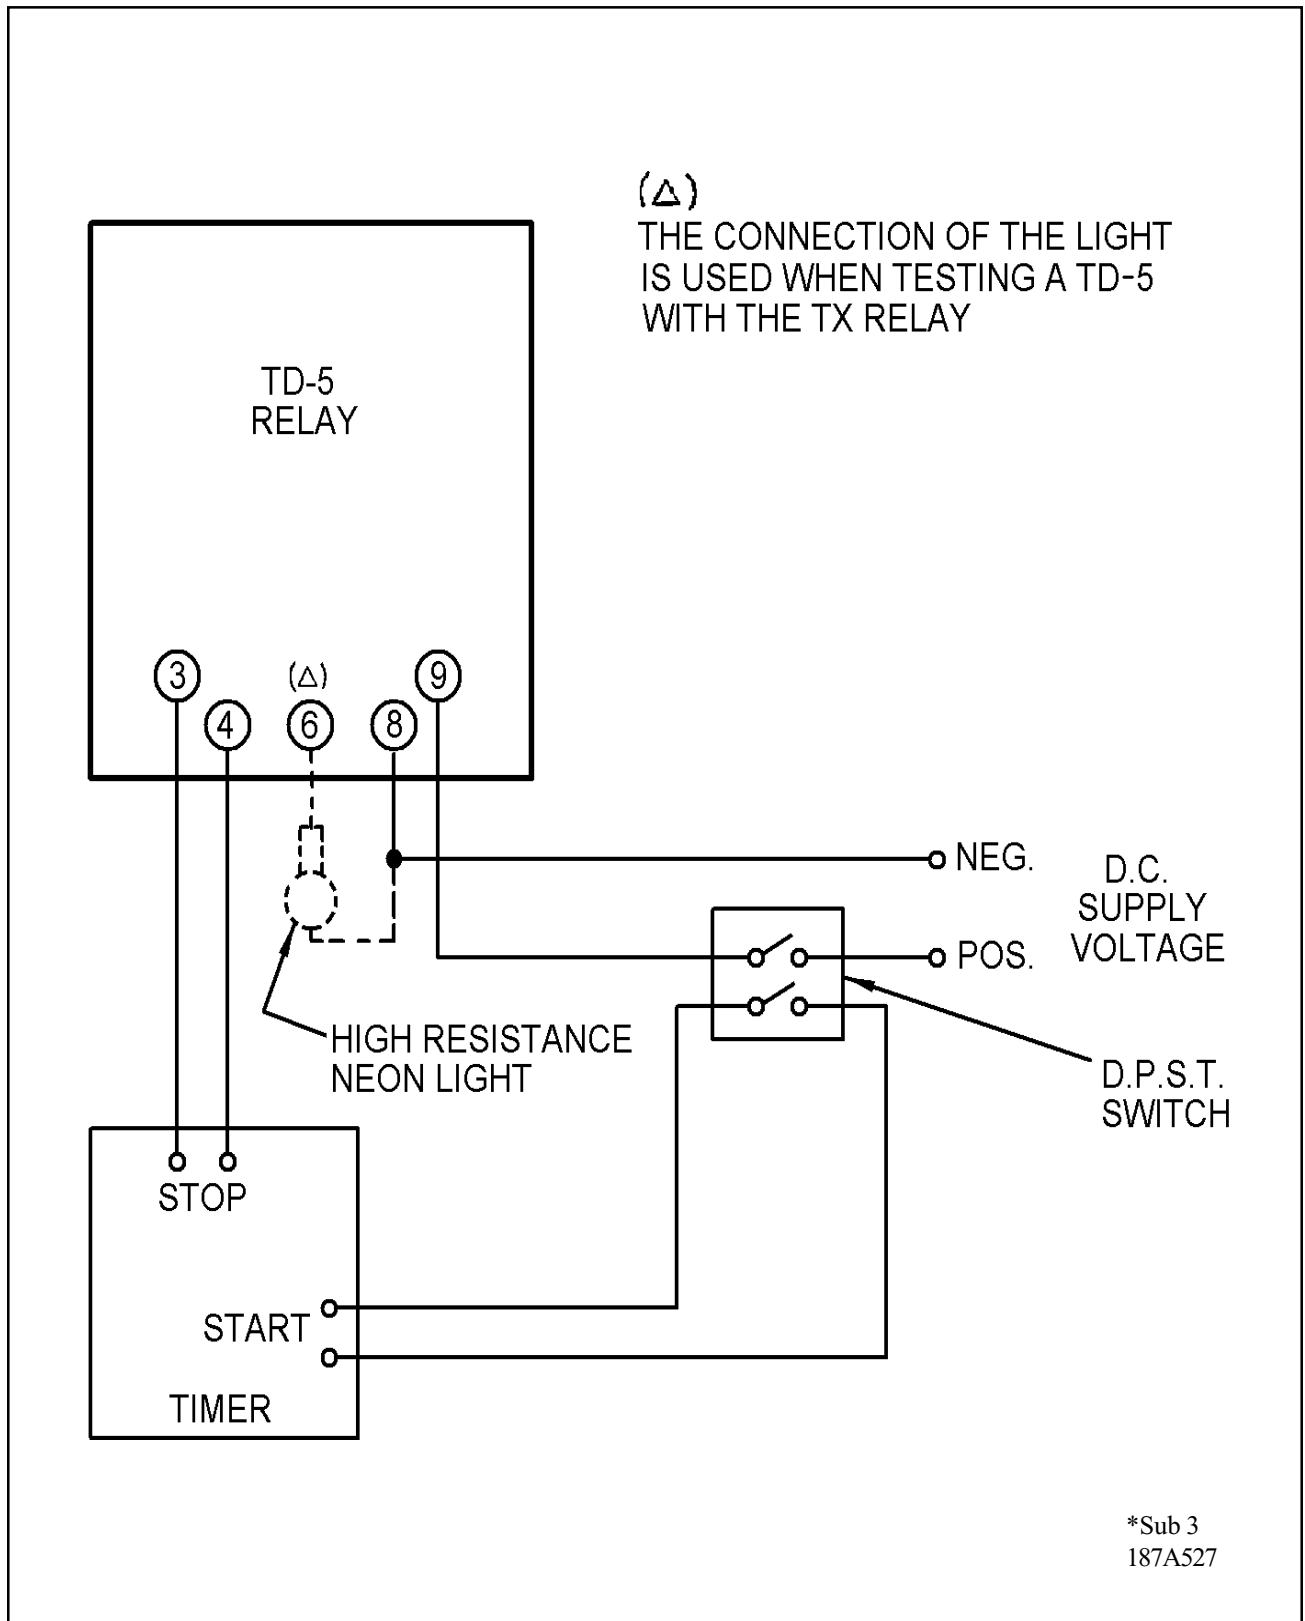

Figure 6. Test Circuits for Type TD-5 Relay
The following check is recommended to insure that the relay is in proper working order. Perform a timing check at minimum and maximum settings. A recommended test circuit is shown in Figure 6. When testing the TD-5 with a TX relay make the dotted connection as shown in Figure 6. The neon lamp will light if the TX relay is operating properly.
2. Check the reference voltage circuit. This is done by measuring the dc voltage across the silicon power regulator, Z or Z1. Connect the dc volt meter positive terminal to the rear terminal (Design 1) or bottom terminal (Design 2) of RS and the negative terminal to relay terminal 8. Apply rated voltage per the test circuit diagram, Figure 6. The Zener voltage should be between 11.0 and 14.0 volts for 24/32 VDC relays, between 21.5 and 25.5 volts for 48/125 VDC relays, and between 50 and 59 volts for 250 VDC relays.